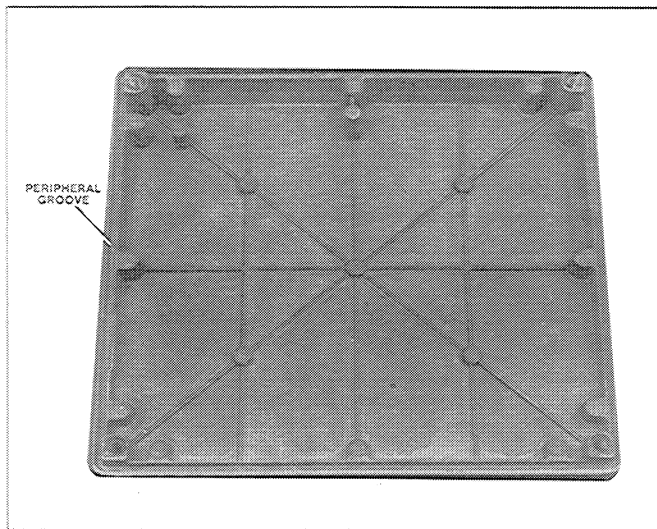

Figure 2. Underside of Register Cover
3. Remove the reset shaft flange from the right hand side of housing by removing three screws shown in Figure 2. Discard the flange, but retain the screws.
5. Place the top cover on a flat surface, groove side up. Partially fill peripheral groove (Figure 2) with sealant (3). Carefully place the rubber gasket material (1) into the sealant all around groove. Trim off any excess.